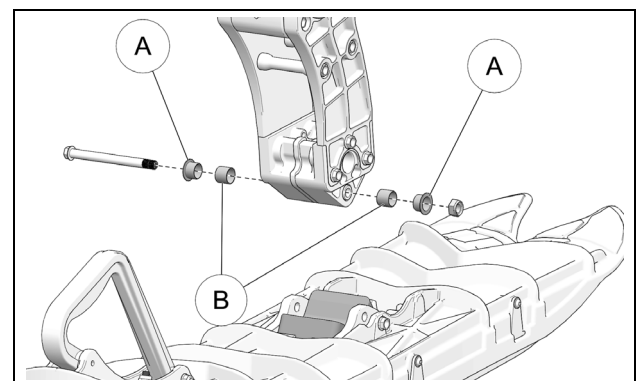

Figure 75
Verify play and extent of wear on the nylon bushings (A) and (B) guiding the assembly bolt that secures the ski to the spindle. If there is abnormal play in the bushings, replace them. See Figure 75.